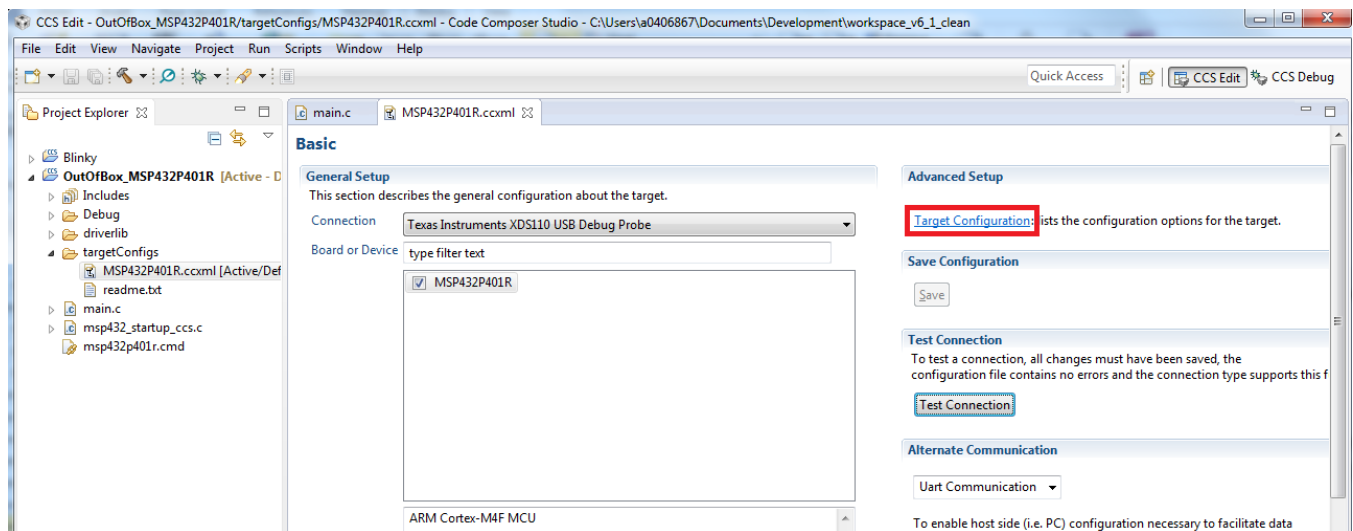

Figure 13. Target Configuration
1. Expand the project in Project Explorer and open the projects *.ccxml file in the targetConfigs folder. Select the correct debug probe (see Figure 13).